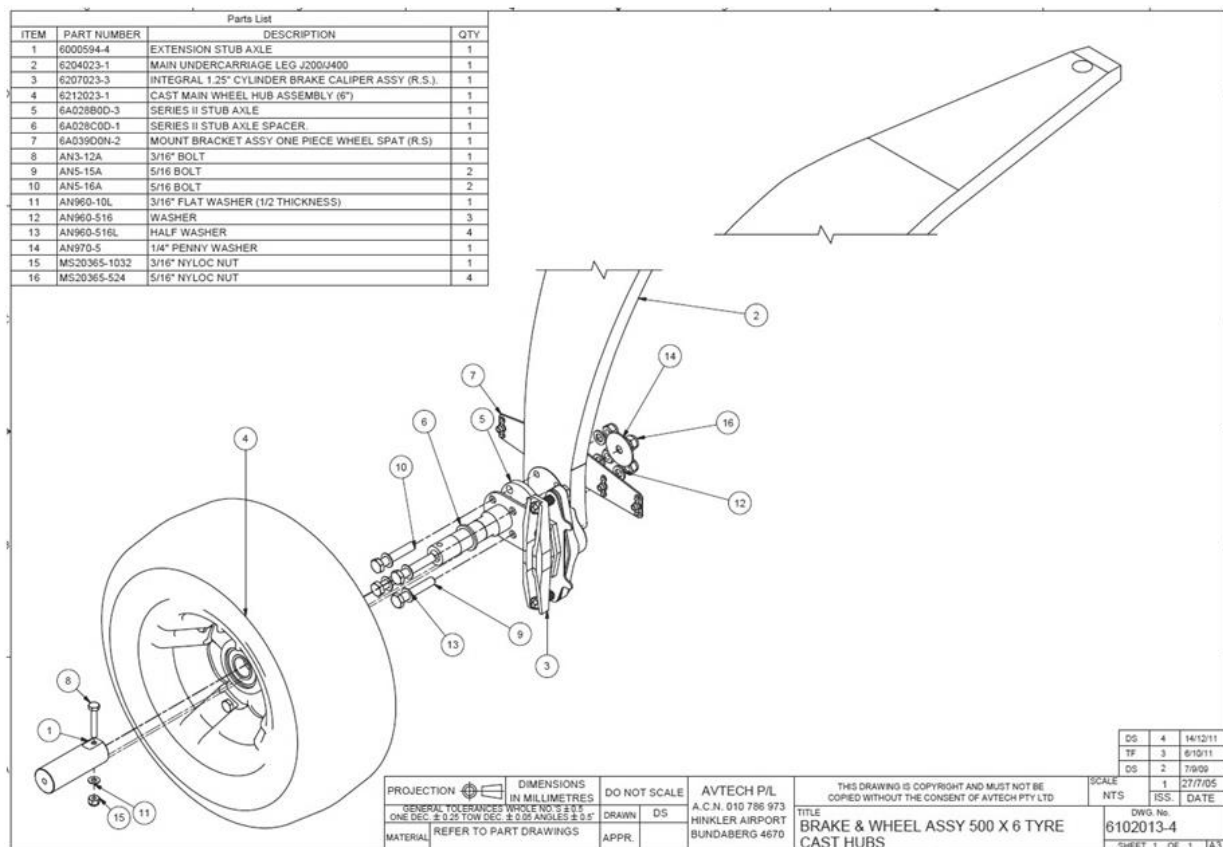

Figure 76 – Main Wheel to Leg Assy (all J-Series)
- Figure 76 shows a typical installation. While details and part numbers vary from model to model the general arrangement shown applies to all aircraft.
- 2. While older and lighter aircraft models use a hollow axle stub, most recent aircraft use a solid version of the same part. When using the solid axle, an Aluminium bearing spacer ring must be fitted to the stub before the wheel assembly – see Figure 76. This part is not required for hollow axles.